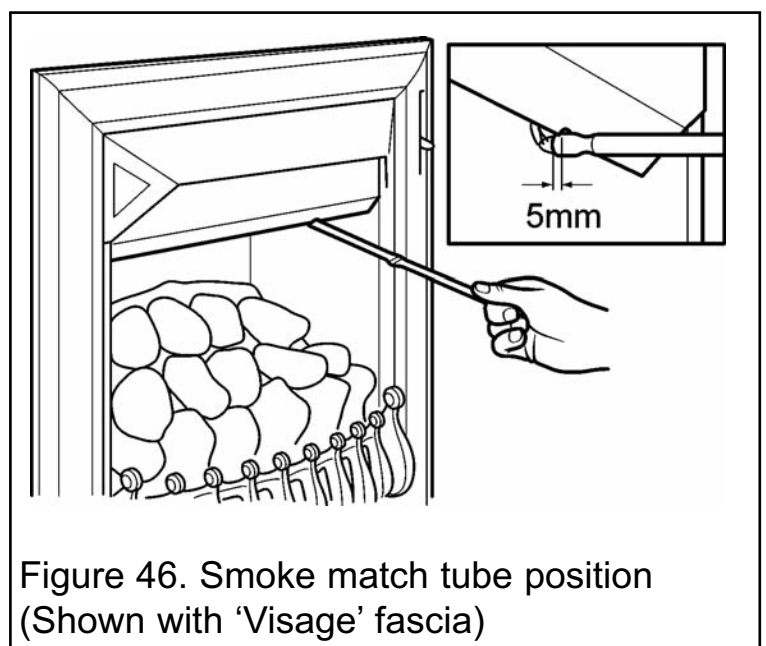

Figure 46. Smoke match tube position (Shown with 'Visage' fascia)
4. The smoke match should be placed horizontally into the convection box at the right hand side. There is a notch in the black cross member. Insert the tube so that the neck of its flared end is 5mm passed and in contact the cross member (See figure 46).